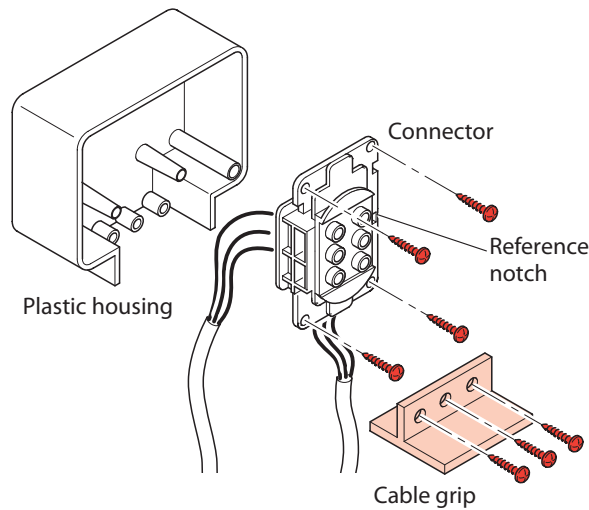

Fig. 3
1. Wire up the Input-Output connector supplied as shown in figure 3, using insulated cable with wires whose section is at least **2.5 mm2**.
2. Insert the connector into the plastic housing and secure it using the screws supplied. Secure the wires to the housing using the cable grip (see fig. 3).
The cables supplied are fitted with an input plug and outlet sockets whose maximum capacity is 16A. Therefore, we recommend use of direct cabling from the control panel to the connector supplied (follow instructions for connections shown in Figs. 3 and 4 on Pages 36-37) for applications where the anticipated UPS input current will be in excess of 13A (e.g. 5000 VA with Vin=184V).